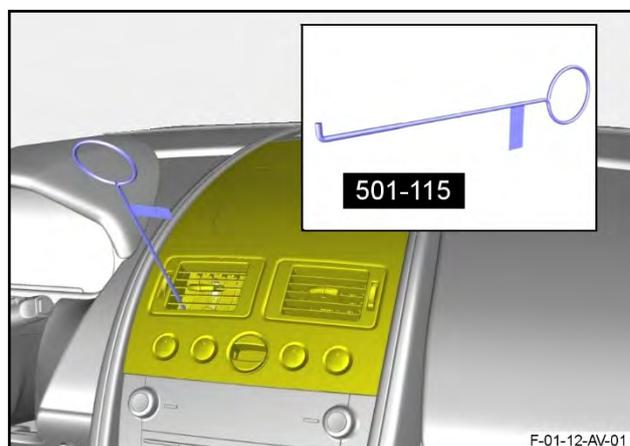

Figure 11
18. Use the special tool to release the veneer panel for the instrument panel (refer to Figure 11).